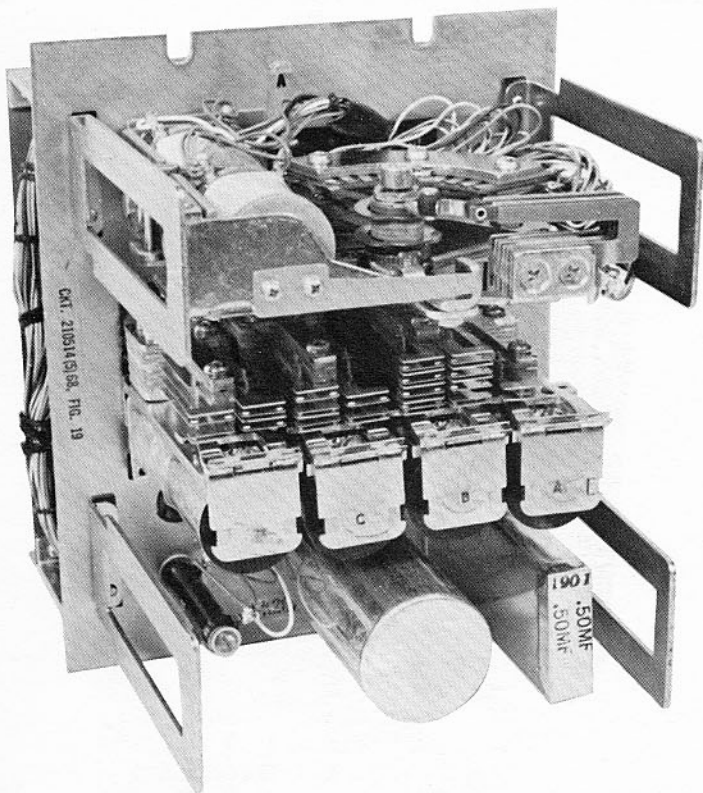

Figure 1-14.
M. K207B* and K207C Key Telephone Units (see Figure 1-14)